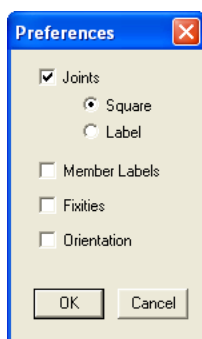

Figure 3-48 Preferences dialog box
- From the **Show** menu, select **Preferences**. The dialog box of Figure 3-48 appears.